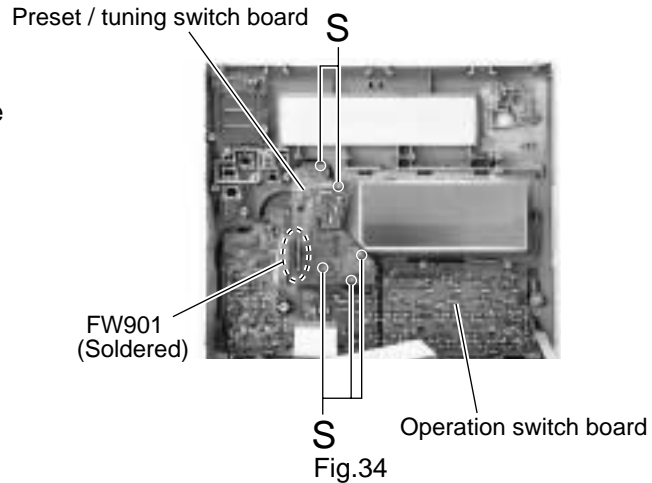

Fig.34
■Removing the preset / tuning switch board (See Fig.34, 35)